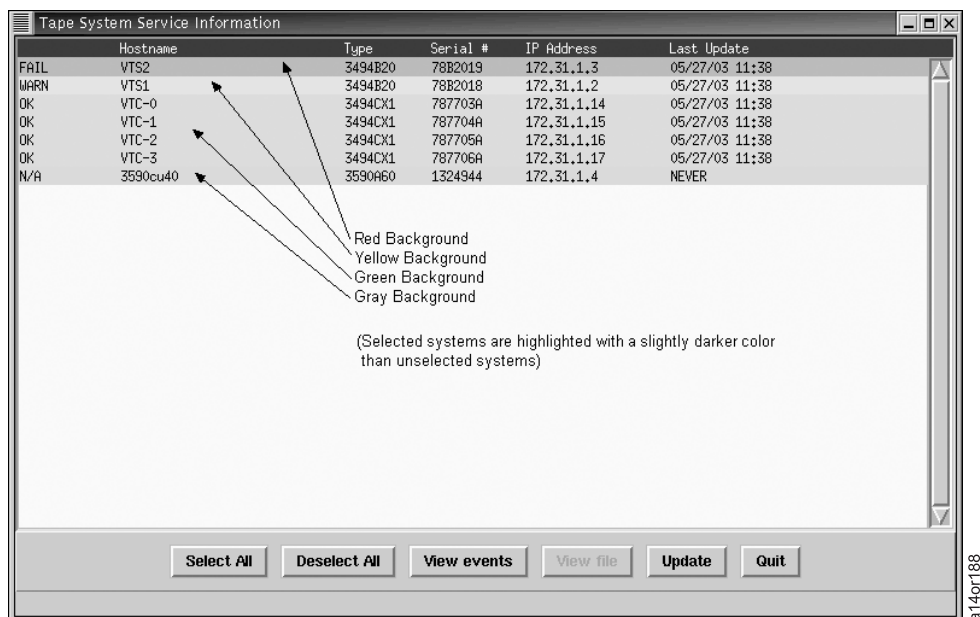

Figure 3-5. Tape System Service Information – Main Screen
2. Select **System Console Actions, Tape System Service Information**. You see the Tape System Service Information screen shown in Figure 3-5.
3. The Tape System Service Information screen, as depicted in Figure 3-5, shows a summary of the status of the systems that are attached to the System Console as of the date and time that are included in the Last Update column. The system listing is sorted in descending order of status severity. The background color scheme provides this information:
You also can view the contents of the entire service status file for an attached system by selecting it at the Tape System Service Information main screen (Figure 3-5 on page 3-4) and clicking **View File**.
8. From the Main Screen in Figure 3-5 on page 3-4, select **Quit** to quit.